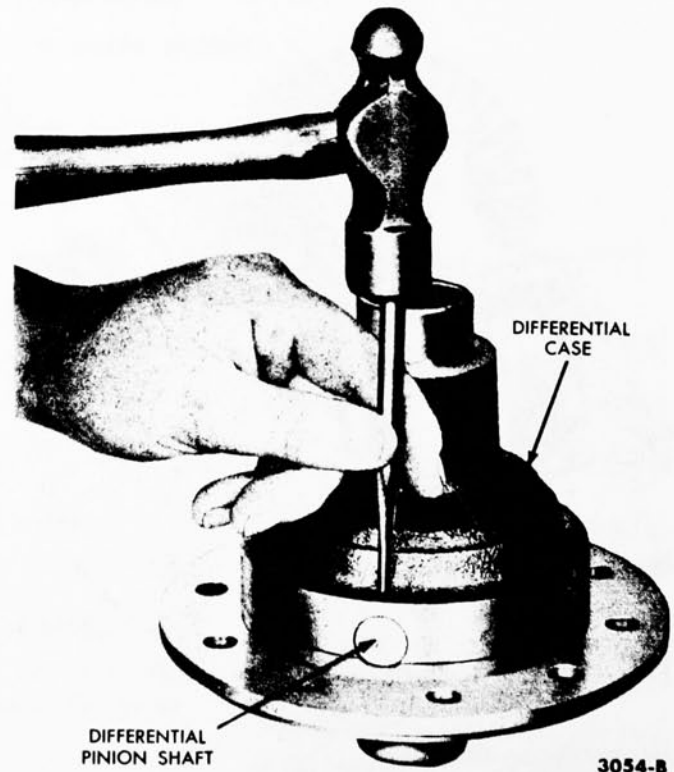

FIG. 7—Differential Pinion Shaft Retainer Removal
5. With a drift, drive out the differential pinion shaft retainer (Fig. 7), and separate the 2-piece differential case.